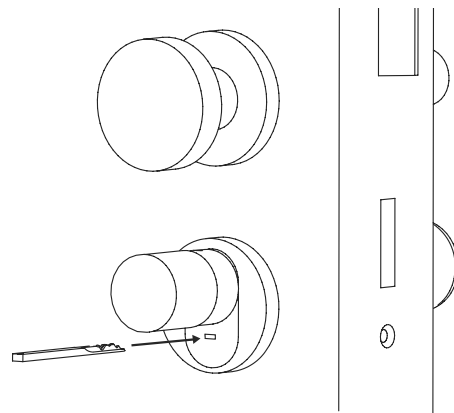

Fig. 11
① To open the lock, open the emergency key at the joint and then insert it through the indicated slot on the emergency lock cover (Fig. 11).
② Turn the key 90 degrees clockwise. If required, move the outside knob slightly to the right and left in order to release the mechanism. The lock is open after at least two full turns of the cylinder knob.
③ After opening the door, turn the emergency key back to its original position (90 degrees counterclockwise) and remove it.
④ To return the locking cylinder to its regular locking position, turn the outside knob two complete turns in both directions. This engages the mechanism and the emergency lock is fully closed.